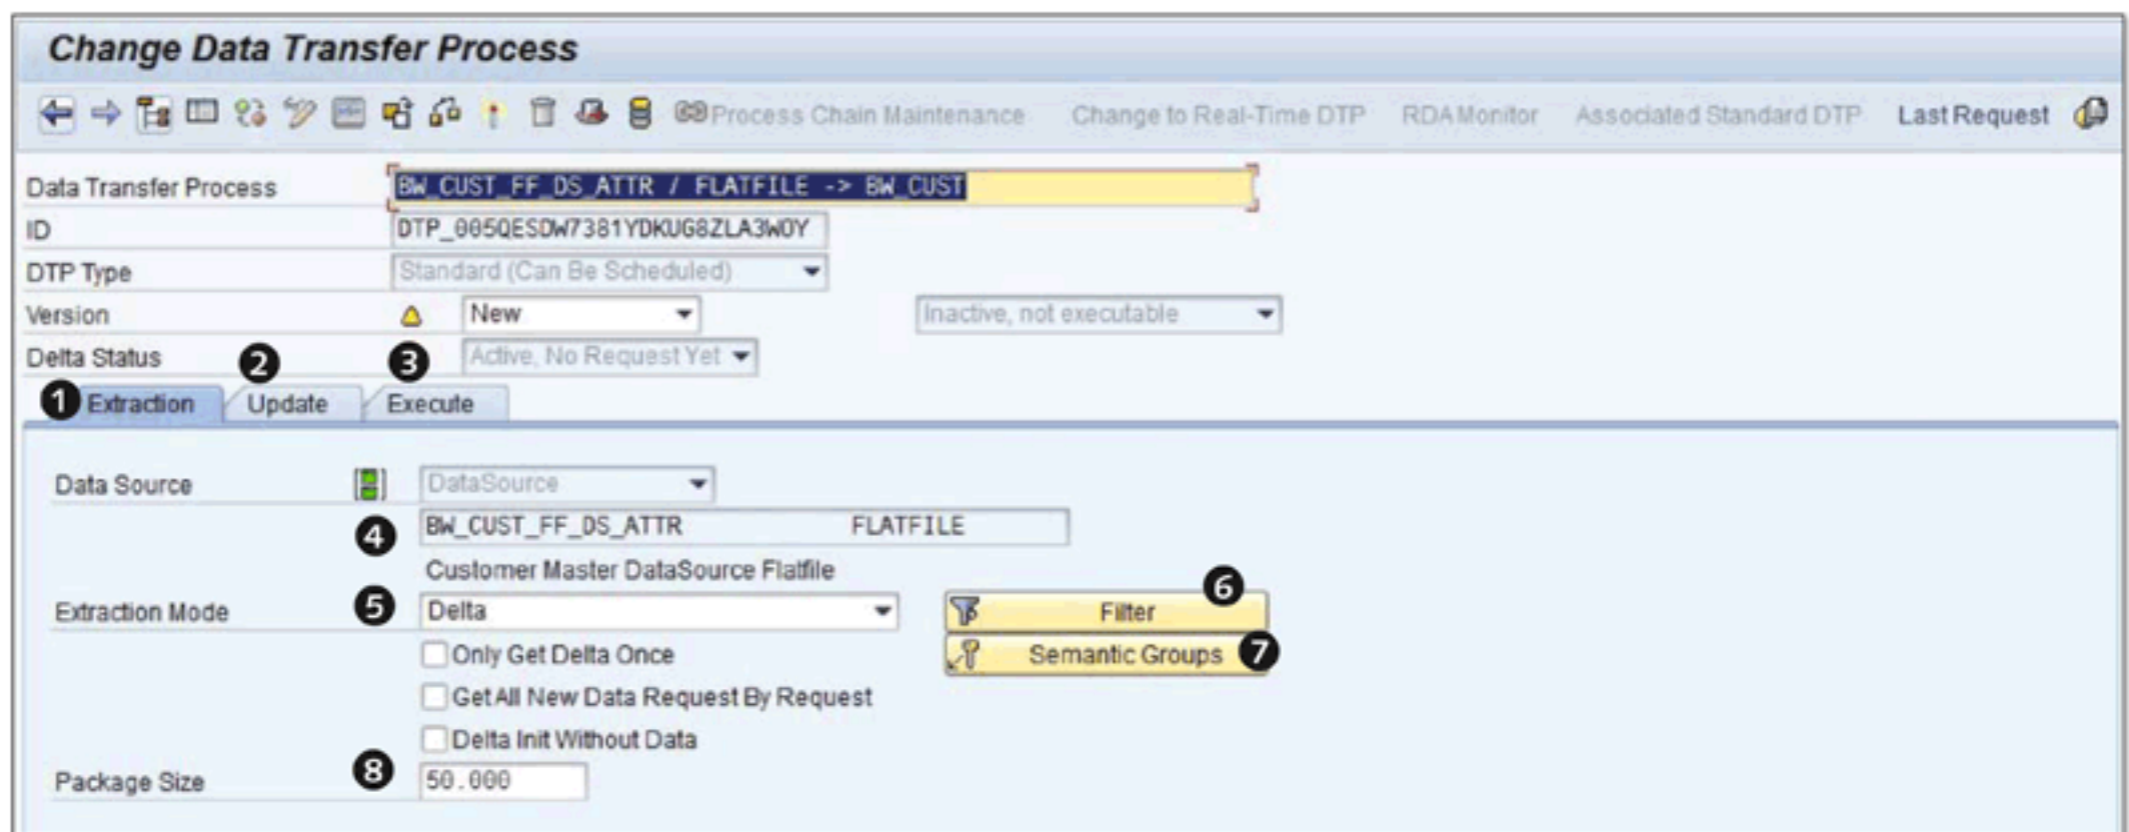

Figure 7.26 Change Data Transfer Process: Extraction Tab
The result of this action is the CHANGE DATA TRANSFER PROCESS screen shown in Figure 7.26. Three different tabs (1, 2, and 3), are available, each of which we discuss next.
The EXTRACTION tab provides details about the DataSource of the DTP, which is shown in 4 of Figure 7.26. There are two different extraction modes (5): full and delta. In the *full extraction mode*, all requests available in the associated PSA
This field (8) helps you change the parameters that control the bulk of extraction. Records from DataSources are extracted in a set, and the number of records in this set is called the *package size*. Determining the package size helps you control the extraction process and relate to the available processing capacity in the system; after a data set equal to the package size is extracted, the system starts loading it to a data target using another process. For our example, we don't change any default settings, and we keep the screen as shown in Figure 7.26.